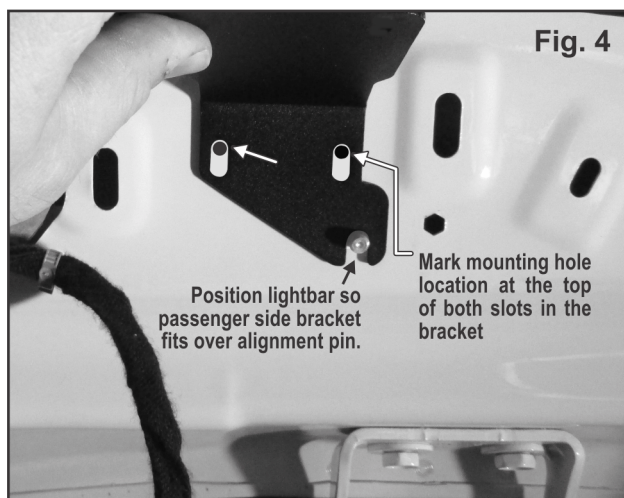

Fig. 4
4. Hold the lightbar up against the vehicle window in the exact position that it will be mounted. The alignment pin from the doubler bracket should fit into the open slot in the mounting bracket, and should be used to locate the lightbar (Fig. 4).
in figure 4 at the top of the slot in the bracket as shown. This will allow for adjustment in later steps (Fig. 4).